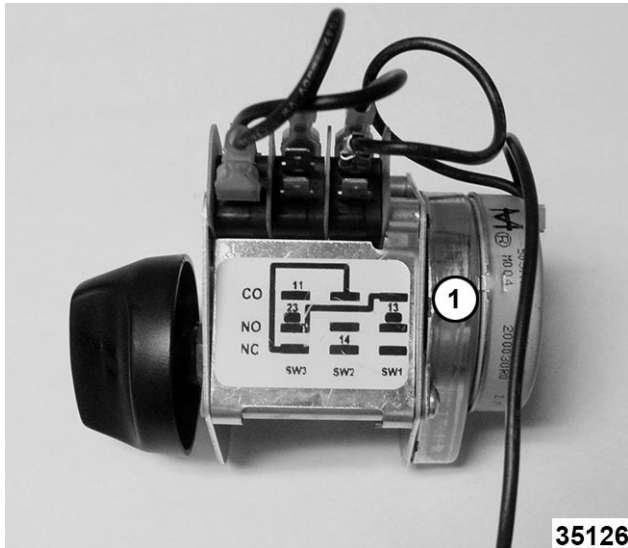

Fig. 1
Precision Timer (1) Shown in Fig. 1